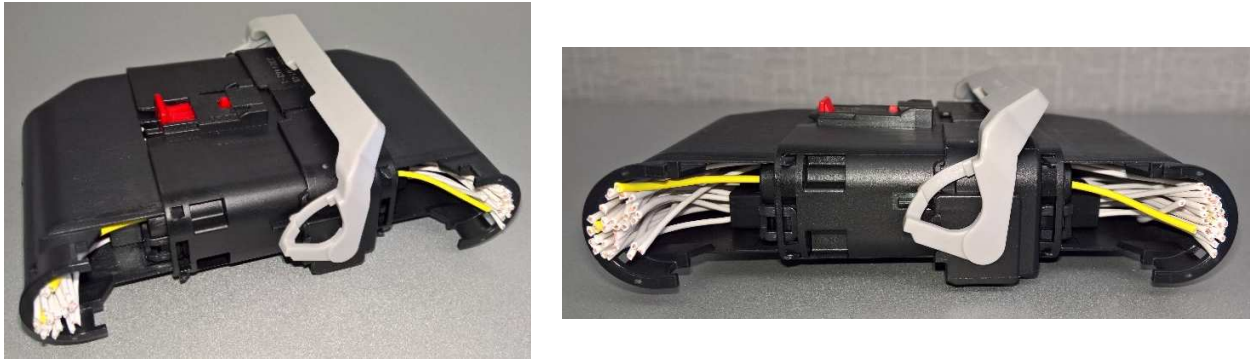

Figure 10
4. Alternatively, connector halves can continue to be pushed together manually until the lever pops further as shown in Figure 10.